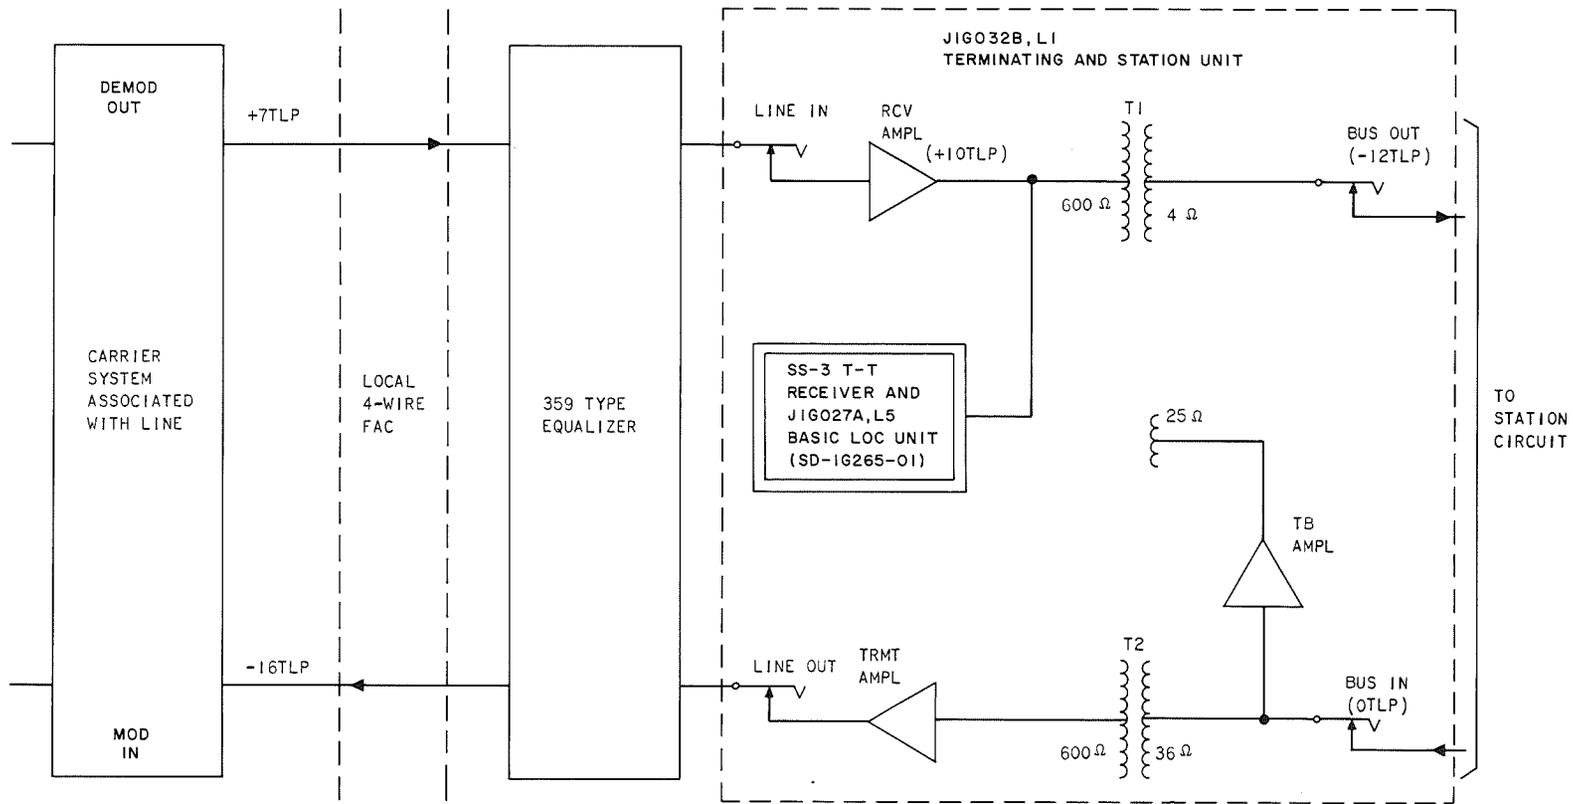

Fig. 1—Terminating and Station Unit J1G032B, L1
**2.04** Each terminating and station unit J1G032B, L1 provided at an order wire location should be adjusted as follows (Fig. 1):